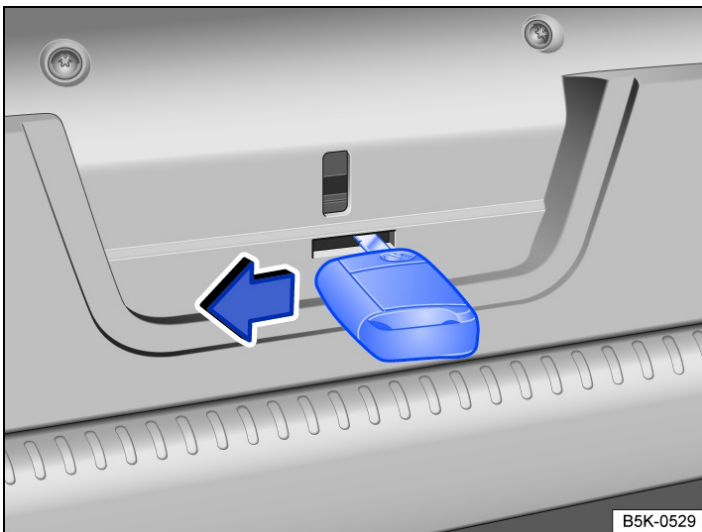

Fig. 2 In the boot lid: manual release mechanism for the boot lid.
- Insert a suitable object into the opening for the release lever and press in the direction of arrow → *Fig. 2* to unlock the boot lid.